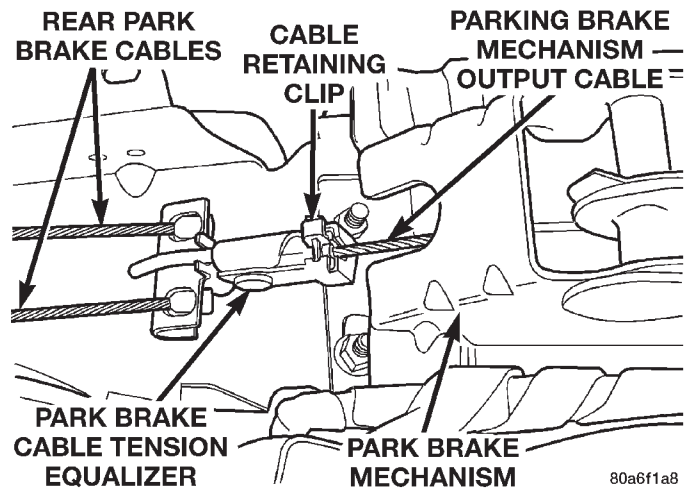
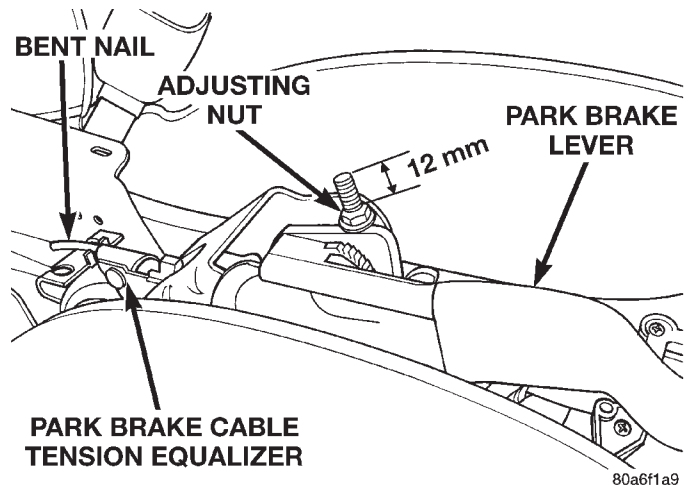

Fig. 203 Cable Retainer Installed On Tension Equalizer
Fig. 204 Parking Brake Adjustment (Rear Drum Brakes)
(12) Install a **new** park brake lever output cable to tension equalizer retaining clip (Fig. 203) on tension equalizer. The cable retainer (Fig. 203) must be closed and securely latched.
(13) Adjust cable tension for the parking brake system using the following steps.
- On vehicles with **REAR DRUM BRAKES**, tighten the adjusting nut on the parking brake lever output cable until 12 mm millimeters of thread is out past top edge of adjustment nut (Fig. 204).